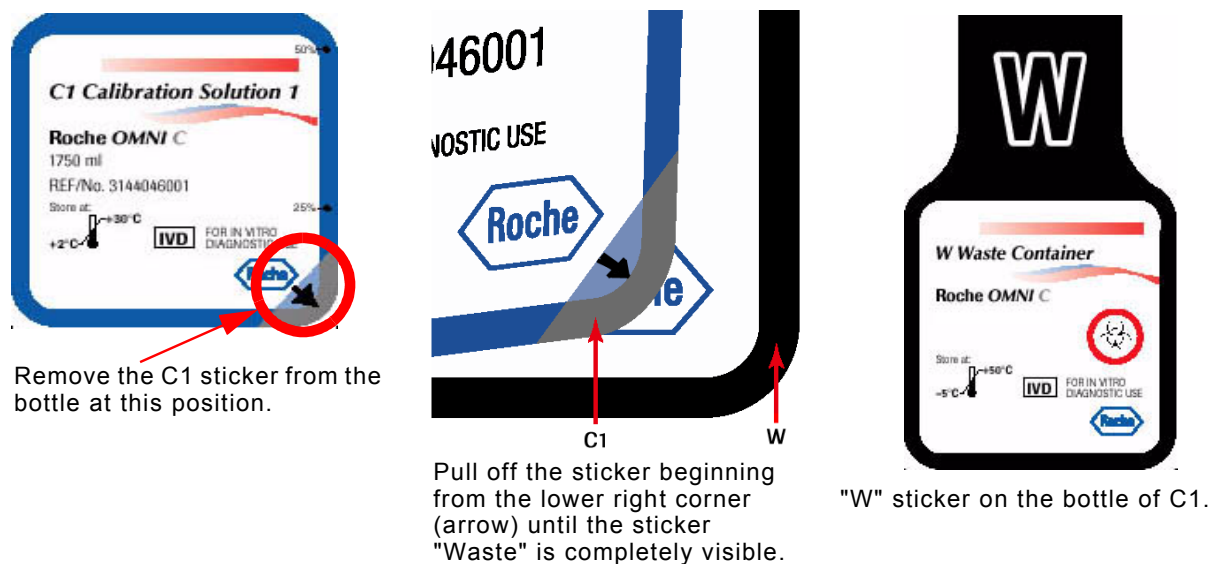

Fig. 12
- Remove the sticker from the empty bottle of C1 solution (see Fig. 12).